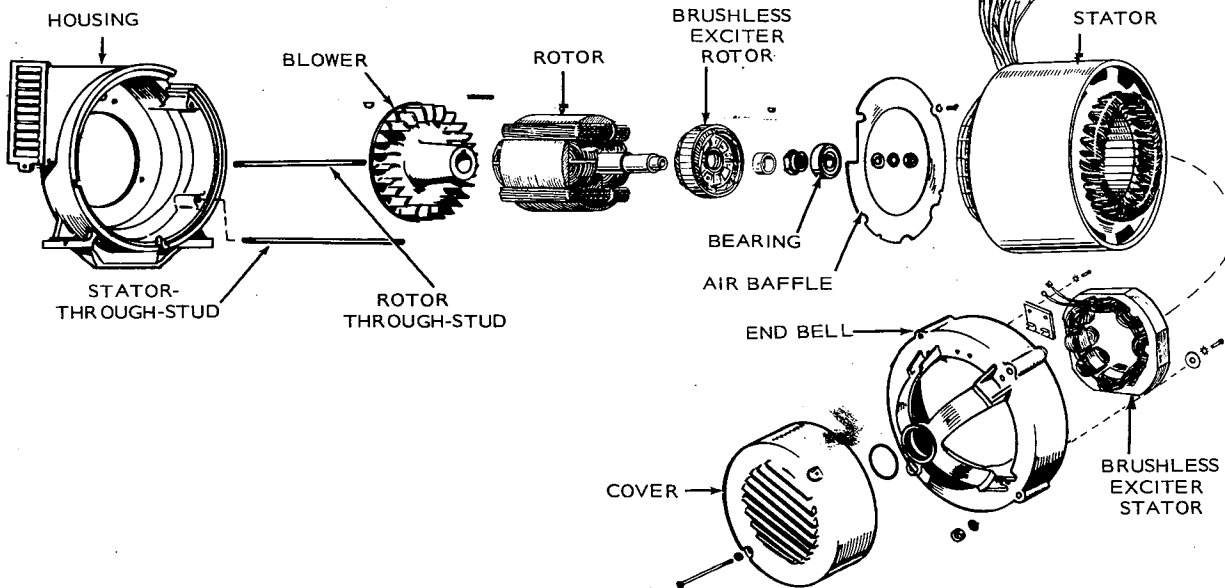

FIGURE 20. GENERATOR DISASSEMBLY
5. Remove stator-through-stud nuts, end bell, and stator assembly, Figure 20. Screwdriver slots in